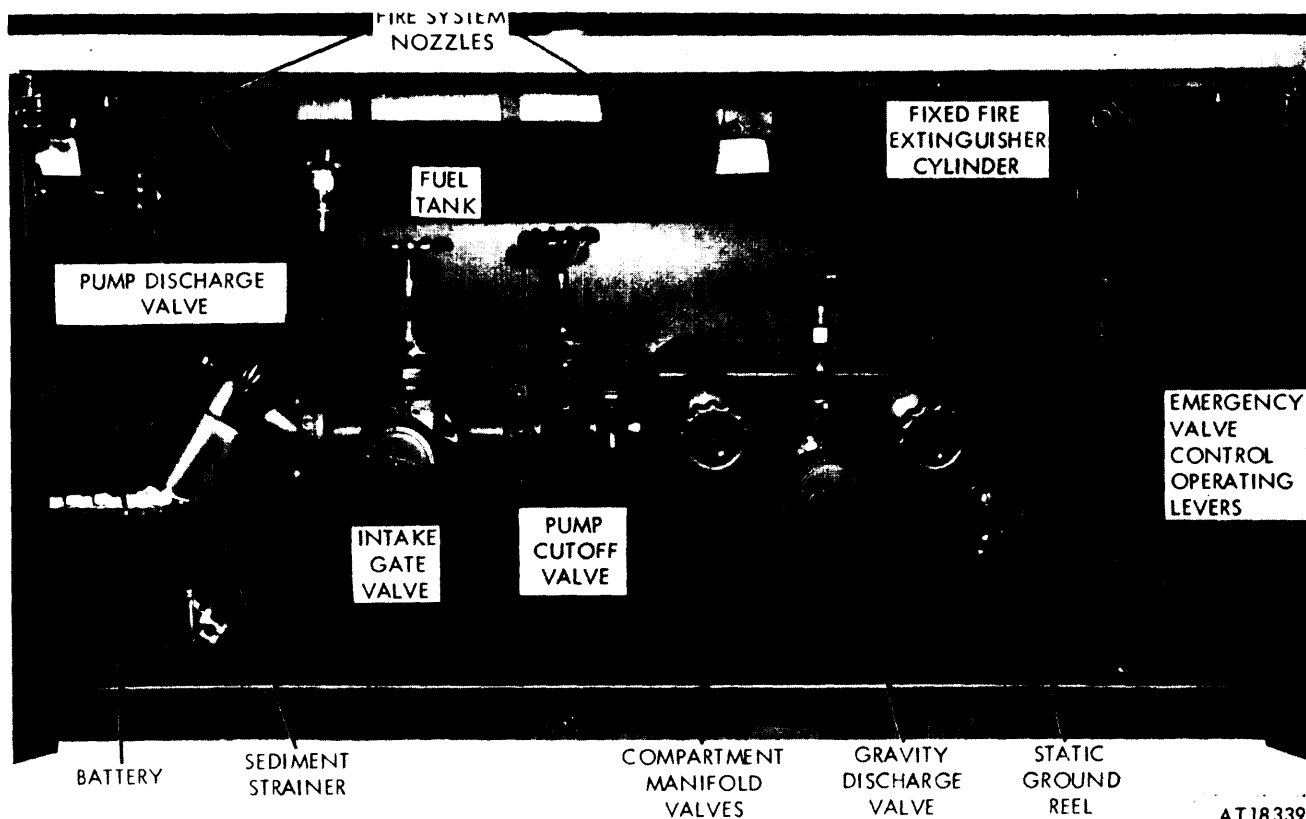

Figure 2-6. Forward curbside cabinet-M131A5.
*f. Manifold Values* (fig 2-6, 2-7, 2-11 and 2-12). There is one manifold valve for each compartment controlling the fuel flow between the compartment and
*h. Gravity Discharge Valve (fig 2-6, 2-7, 2-11, and 2-12).* This valve is used to control the gravity flow of fuel from the manifold.
*i. Pump Intake Valve (fig 2-6, 2-7, 2-11, and 2-12).* This valve is used to control the fuel flow to the pump when bottom loading the semitrailer by use of its pumping system.
*j. Pump cutoff Valve (fig 2-6, 2-7, 2-11, and 2-12).* This valve is used to control the fuel flow from
*k. Pump Discharge Valve (fig 2-6, 2-7, (2-10), 2-11, and 2-12).* This valve is used to control the fuel delivery from the pump through the outlet of the pump discharge valve.